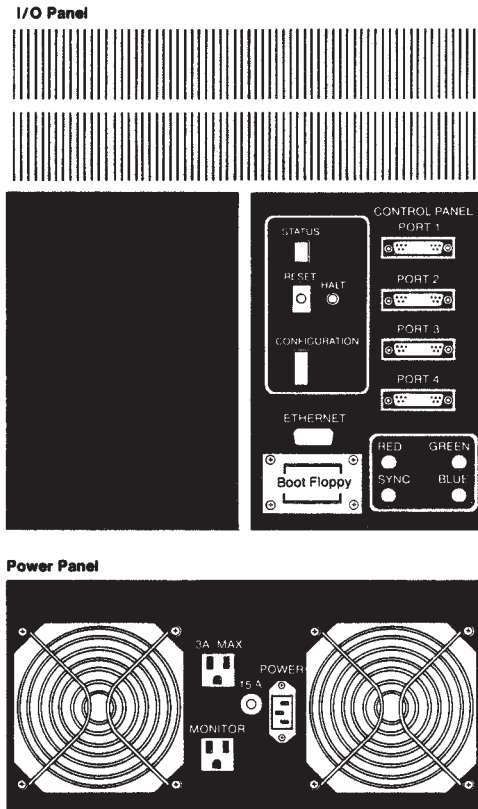

Figure 3-4b: IRIS 1200 Cabinet Back Panel
2. Plug the floppy disk power cable into the **3A Max** convenience outlet on the Cabinet Power Panel. (See Figure 3-4b.)
3. Plug the 3-wire AC power cable on the Switch Box into the **3A Max** convenience outlet on the Cabinet Power Panel (See Figure 3-4b).